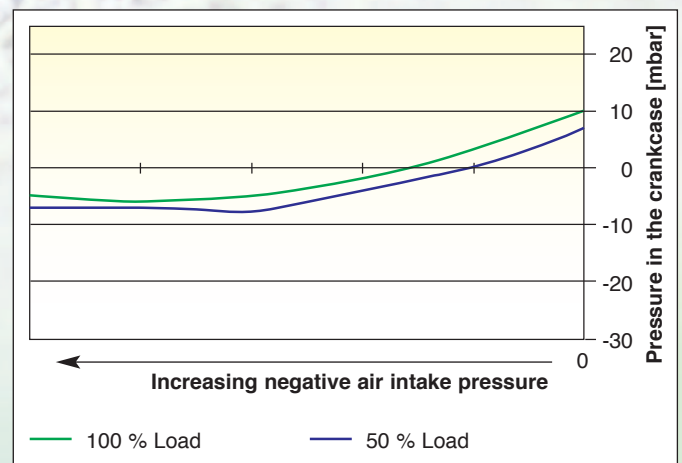

Fig. 3: Pressure adjustment curve (ProVent 200)
In closed systems the pressure regulator (item 3 in diagram) can be set as required to maintain a constant level independent of the negative pressure of the air intake manifold. The set pressure level simply depends on the quantity of blow-by gases (see Fig. 3). The crankcase pressure remains within a narrow